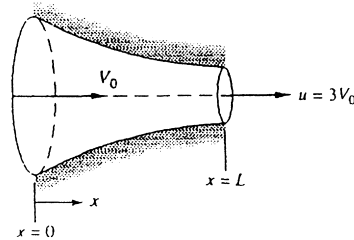

Fig. P4.2
4.2 Flow through the converging nozzle in Fig. P4.2 can be approximated by the one-dimensional velocity distribution
**4.6** Assume that flow in the converging nozzle of Fig. P4.2 has the form  $\mathbf{V} = V_o(1 + 2x/L)\mathbf{i}$ . Compute (a) the fluid acceleration at  $x = L$ ; and (b) the time required for a fluid particle to travel from  $x = 0$  to  $x = L$ .